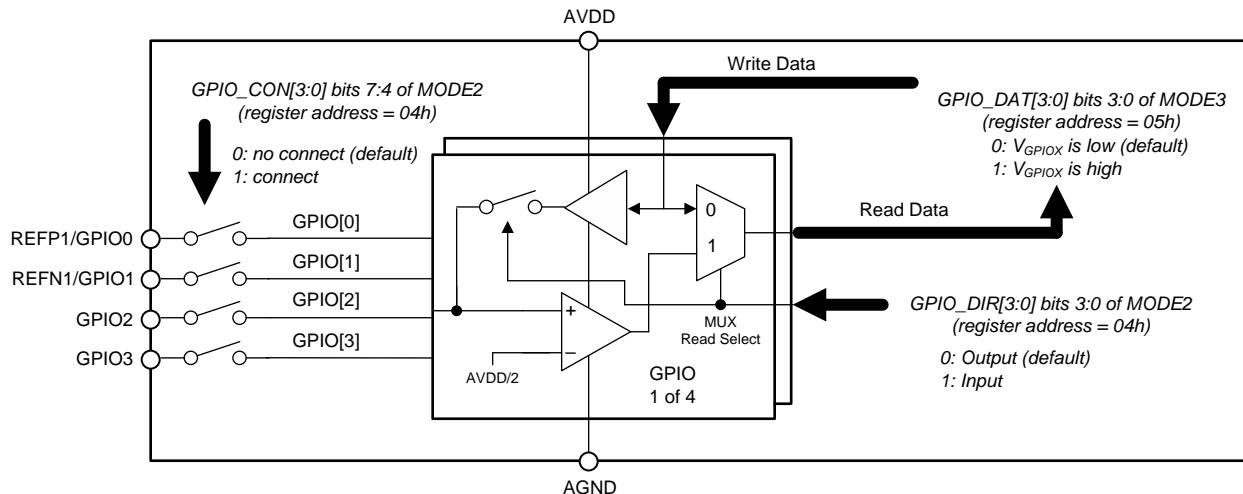

Figure 64. GPIO Block Diagram
The ADC provides four GPIO pins (GPIO0 through GPIO4). The GPIO are digital inputs and outputs with logic values that are read and written by the GPIO_DAT bits of the MODE3 register. Two GPIOs are available on dedicated pins and two GPIOs are multiplexed functions with an external reference (REFP1 and REFN1). The GPIO input and output levels are referred to AVDD and AGND. As Figure 64 shows, the input threshold value is AVDD / 2 (typical). The GPIO_CON[3:0] bits set the GPIO connection to the designated pin (1 = connected). The GPIO_DIR bits program the direction of the GPIO as an input (1) or output (0). The GPIO_DAT[3:0] bits are the data values for the GPIO. If a GPIO pin is programmed as an output, the value read is the register data previously written.